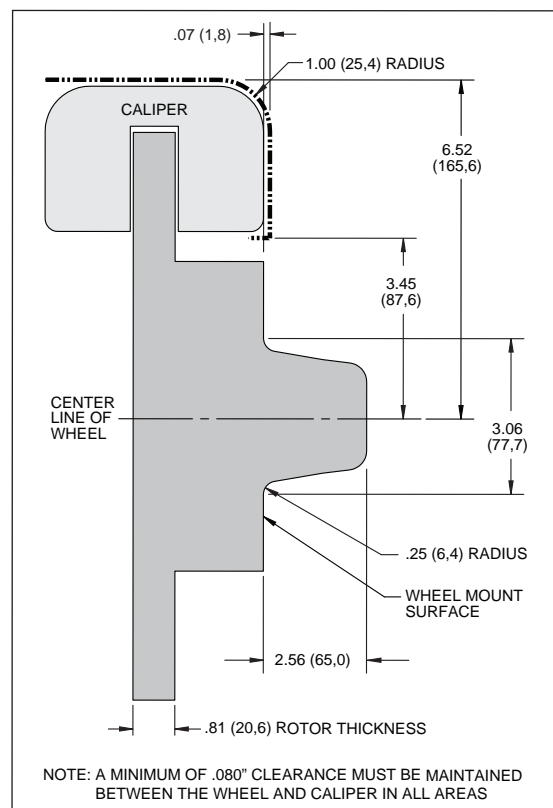

Figure 2. Wheel Clearance Diagram
- Review the wheel clearance diagram (figure 2, page 3) to verify there is adequate clearance with the wheels you will be using with the installation.
- Verify your wheel clearance using Figure 2.